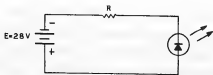

Figure 3-91
34. Refer to the circuit shown in Figure 3-91. What value of R is required for an LED current of 30 mA? (Assume a 1.6 V diode voltage drop.)